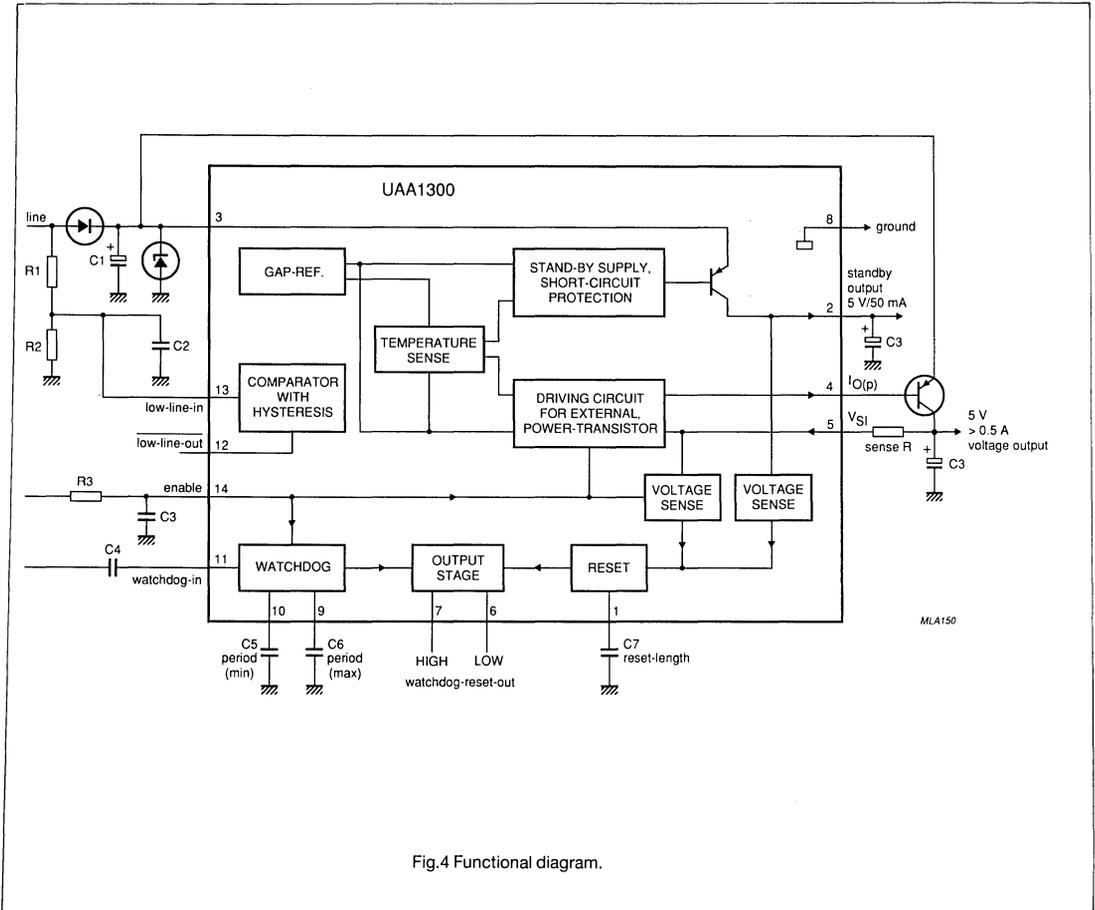

Fig.4 Functional diagram.
Output current $I_{O(p)}$ drives an external PNP power transistor when switched on by the enable input (EN). Voltage sense input (V_S) regulates the current at the external power transistor. With $R = 0 \Omega$ the voltage is $5 V \pm 100 mV$. Using a resistor $> 0 \Omega$ the output will be regulated to a voltage $> 5 V$ (see Figs 4, 16, 17).
An additional external capacitor C2 prevents an initiation of an LLO pulse which might otherwise be caused by short duration (transient) LLI voltage drops (see Fig.4).